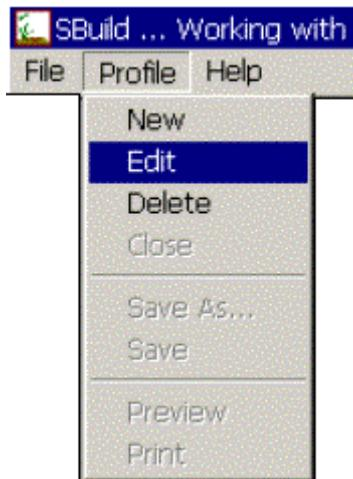

Figure 8 The **Profile/Edit** option is selected(3)
- (1) Start the program and close the Help pop up message.
- (2) Go to menu options and select **Profile/Edit** (Fig. 8).